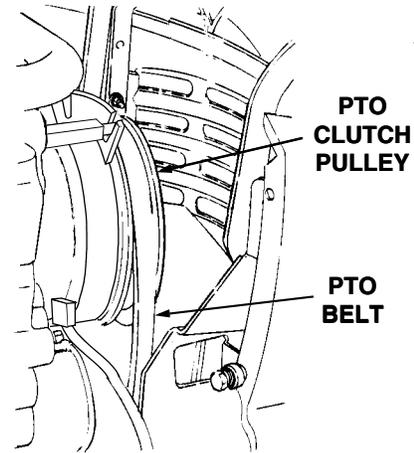

Figure 44
- Open the tractor hood and remove the forward end of the PTO belt from the PTO clutch pulley on the front of the engine (Refer to Figure 44).